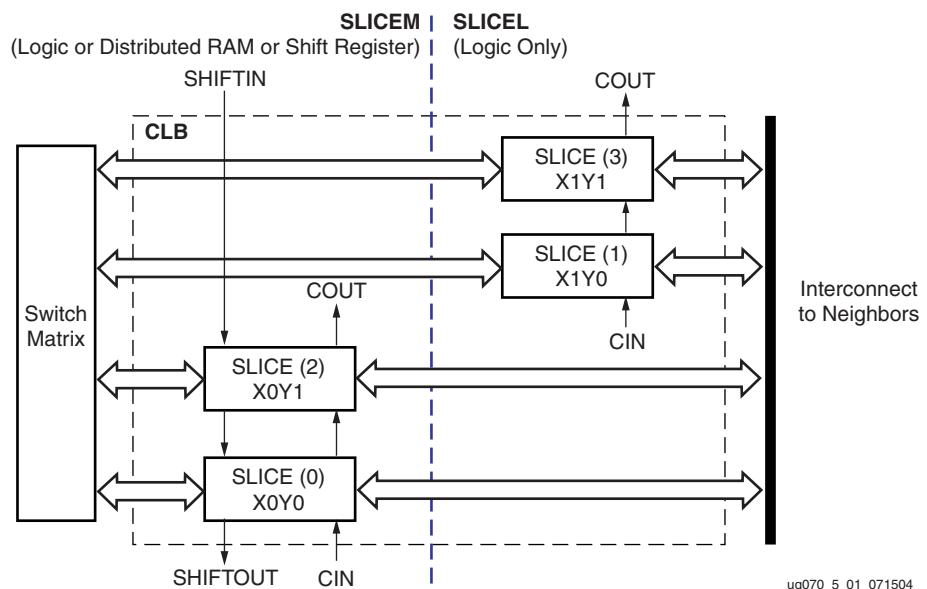

Figure 5-1: Arrangement of Slices within the CLB
The Configurable Logic Blocks (CLBs) are the main logic resource for implementing sequential as well as combinatorial circuits. Each CLB element is connected to a switch matrix to access to the general routing matrix (shown in Figure 5-1). A CLB element contains four interconnected slices. These slices are grouped in pairs. Each pair is organized as a column. SLICEM indicates the pair of slices in the left column, and SLICEL designates the pair of slices in the right column. Each pair in a column has an independent carry chain; however, only the slices in SLICEM have a common shift chain.
The Xilinx tools designate slices with the following definitions. An "X" followed by a number identifies a column of slices. The number counts up in sequence from the left to the right. A "Y" followed by a number identifies the position of each slice in a pair as well as the CLB row. The "Y" number counts slices starting from the bottom in sequence: 0, 1, 0, 1 (the first CLB row); 2, 3, 2, 3 (the second CLB row); etc. Figure 5-1 shows the CLB located in the bottom-left corner of the die. Slices X0Y0 and X0Y1 constitute the SLICEM column-pair, and slices X1Y0 and X1Y1 constitute the SLICEL column-pair. For each CLB, SLICEM indicates the pair of slices labeled with an even number – SLICE(0) or SLICE(2), and SLICEL designates the pair of slices with an odd number – SLICE(1) or SLICE(3).